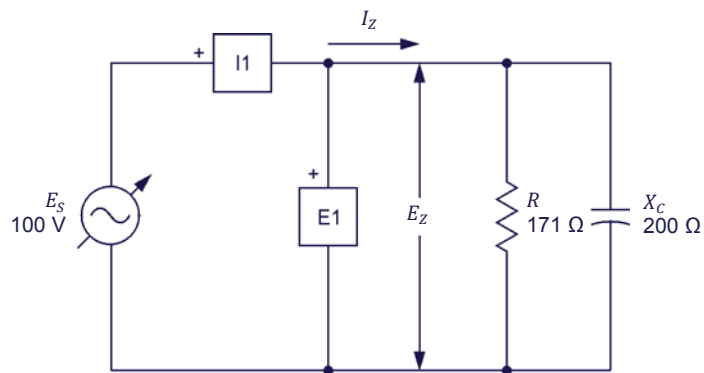

Figure 2-22. Parallel ac circuit containing a resistor and a capacitor.
53. Set up the circuit shown in Figure 2-22.